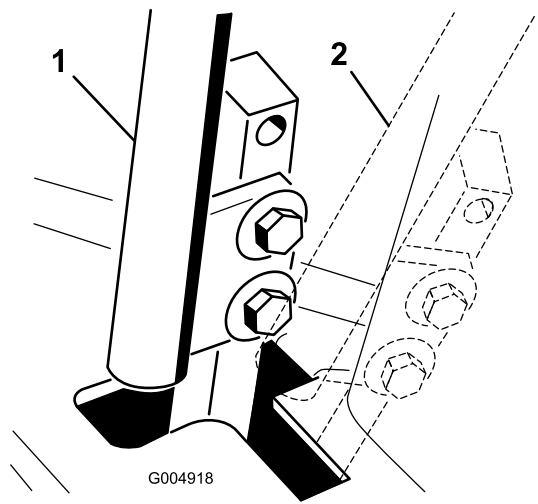

Figure 73
4. Move the control lever to the NEUTRAL position but **not locked** (Figure 73).
6. Check where the control lever is relative to notch in the console (Figure 73).